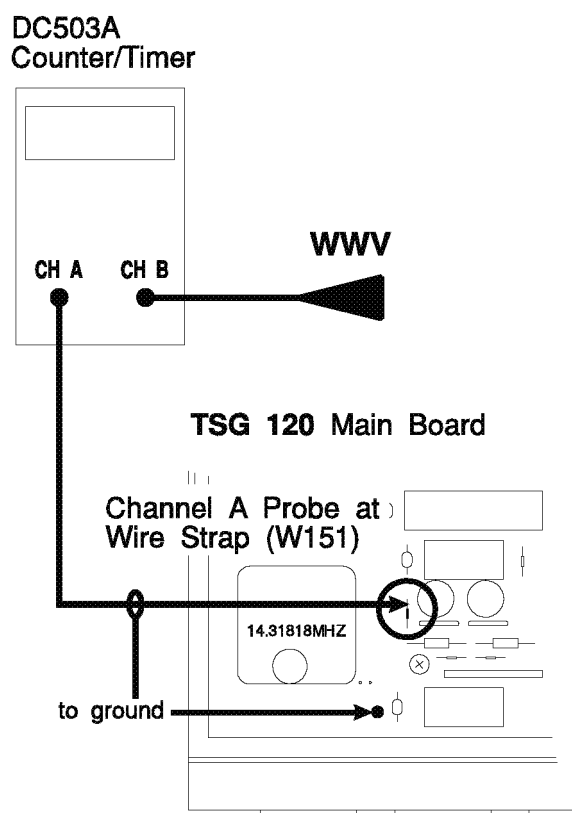

Figure 3–12: Free-running frequency test setup
- a. Remove the cover from the generator and connect the equipment as shown in Figure 3–12.